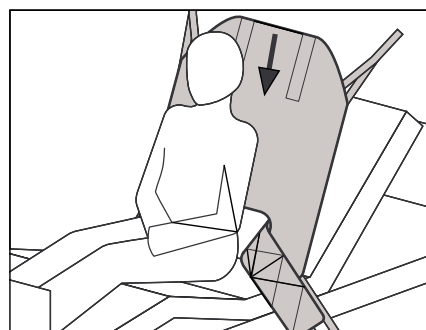

Figure 3
3. Sit the client back against the sling. **Figure 3.**